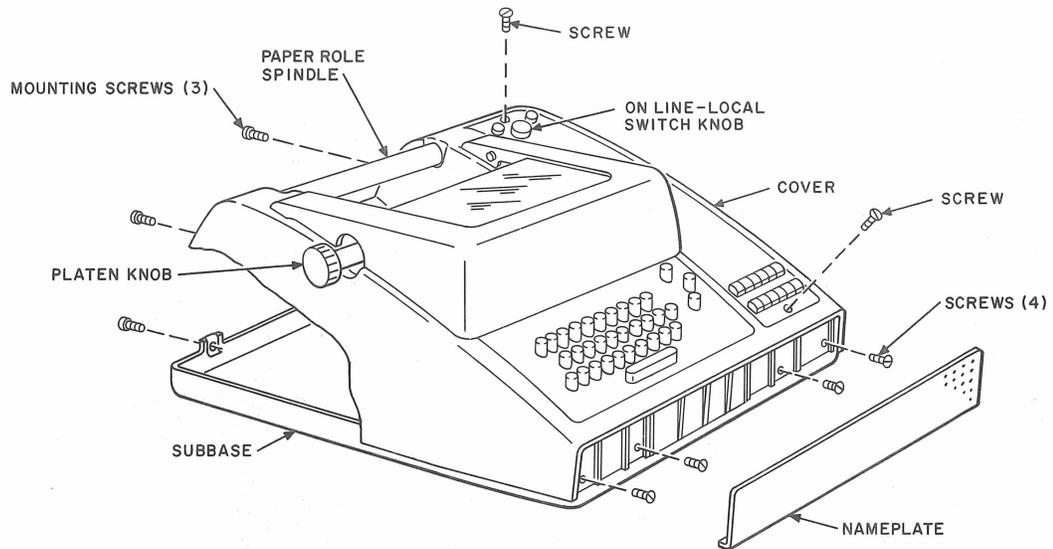

Fig. 1—33-Type TTY Data Station—Cover Removal
- (1) Remove paper and paper roll spindle (Fig. 1).
- (2) If ASR TTY, remove LOCAL—ON LINE switch knob by loosening setscrew and pulling knob off shaft.
- (3) Remove the two screws that secure the faceplate to the cover and remove the faceplate by lifting vertically.
- (4) Remove platen knob by pulling it to the left.